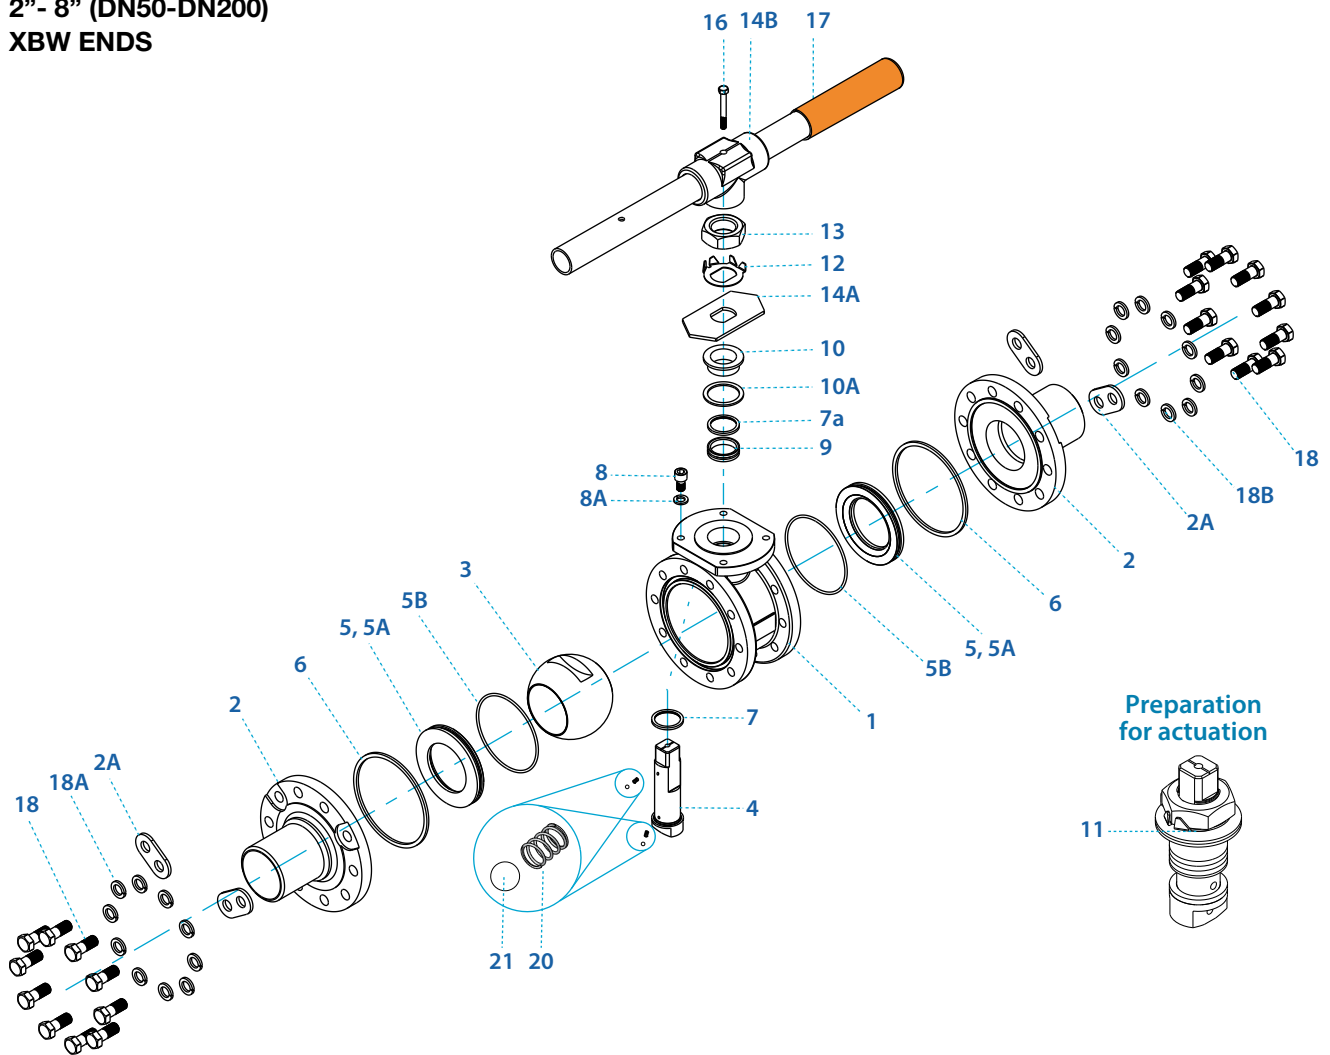

FIGURE 2
- 6.1.1. Carefully unpack the valve and check valve nameplate for identification of materials (see **Figure 2**).